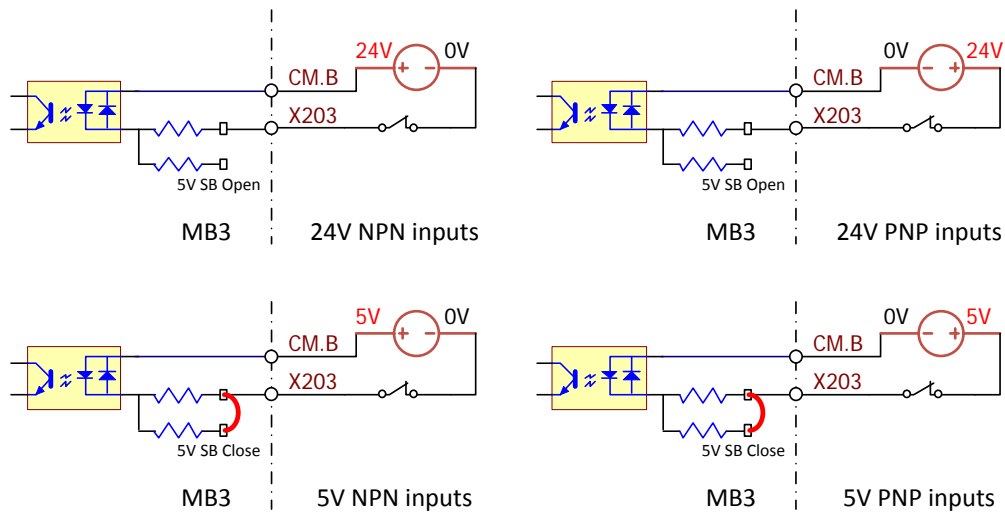

Figure 12, Basic input connections with external power
**Figure 12** shows the 4 different methods to connect a switch with **external** power supply. These connections are totally isolated from any part of the MB3 circuit. The external circuits, for instance, could be the fault output of a VFD drive or plasma cutting system, where rough interference noise appears on the device. Totally isolation is a key to help ESS/MB3 avoiding from extreme interference.